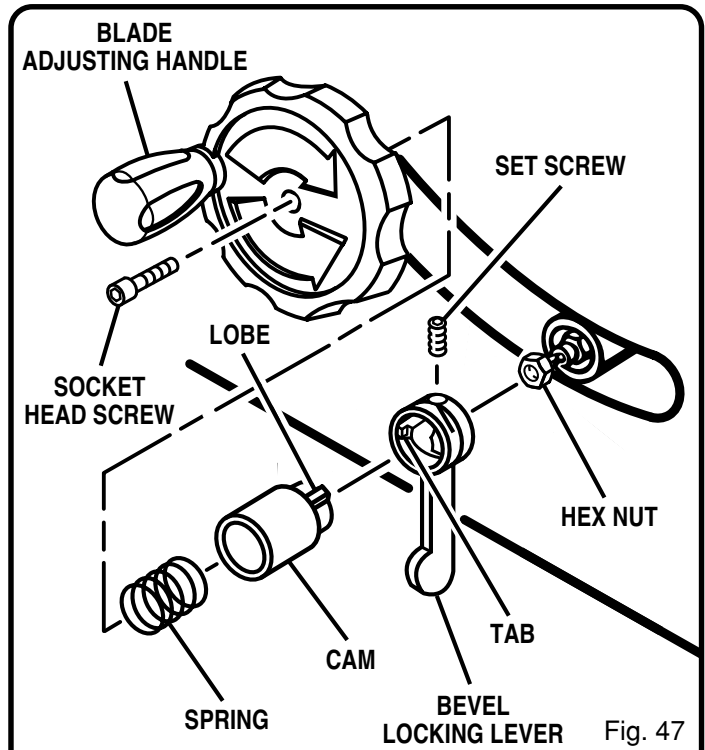

Fig. 47
See Figure 47.
- Replace the cam so that the lobe is against the tab as shown in Figure 47. Make sure the cam is seated in the lever.